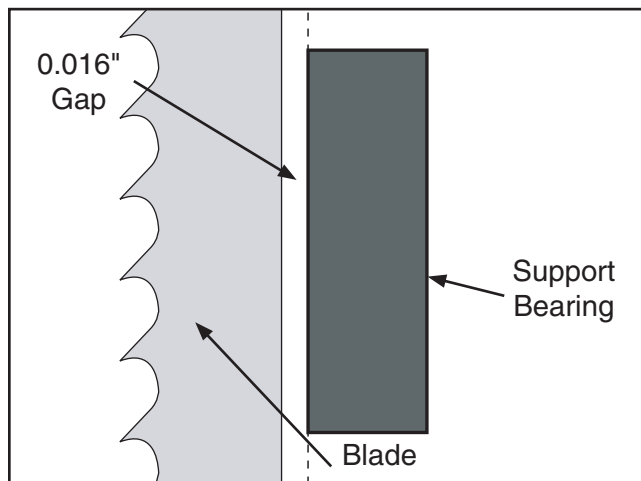
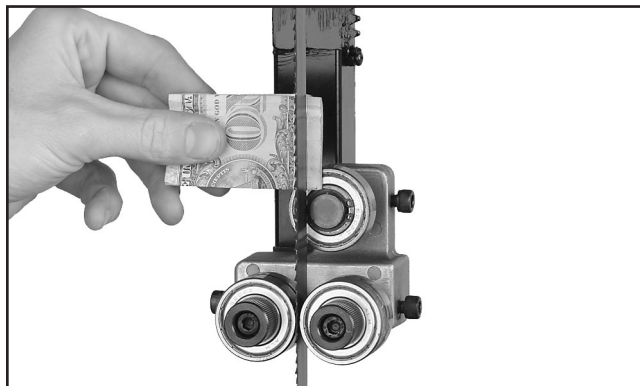

Figure 15. Blade aligned 0.016" away from the bearing edge.
Figure 16. Example of dollar bill folded twice to make an approximate 0.016" gauge.
6. Using a feeler gauge between the support bearing and the blade, position the bearing 0.016" away from the back of the blade, as illustrated in **Figure 15**.
Note: For a quick gauge, fold a crisp dollar bill in half twice (four thicknesses of a dollar bill is approximately 0.016") and place it between the support bearing and the blade as shown in **Figure 16**.
5. Using a feeler gauge, position the bearing 0.016" away from the back of the blade, as illustrated in **Figure 15**, or use a dollar bill, as shown in **Figure 16**.